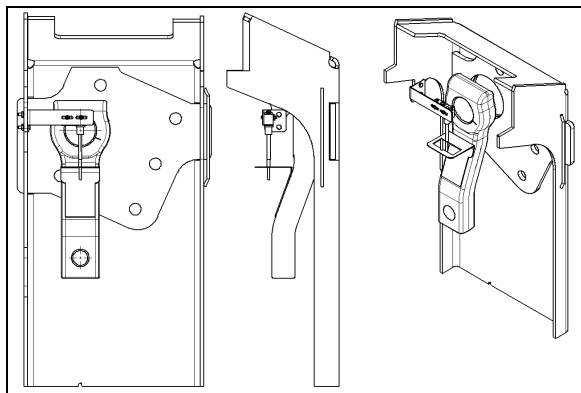

FIGURE 17: TAG AXLE UNLOADING SWITCH ADJUSTMENT 14061
2. Line up switch lever with reference to the bracket center (Refer to figure 17).